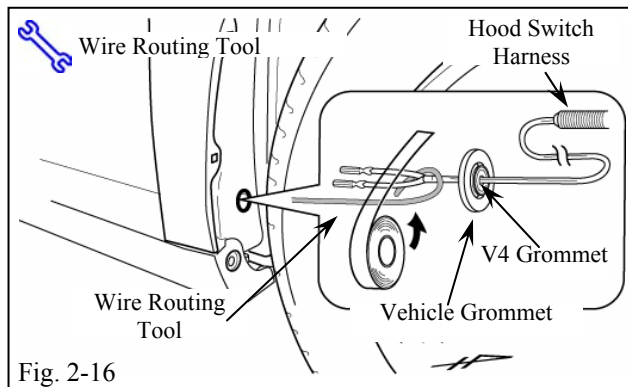

Fig. 2-16
- (v) Slide the Vehicle Grommet over the Hood Switch Harness, and insert the RES Hood Switch Harness's Grommet into the Vehicle Grommet. (Fig. 2-16)
- (w) Secure the 2 Terminals at the end of the Hood Switch Harness to the Wire Routing Tool with Insulated Tape.(Fig. 2-16)